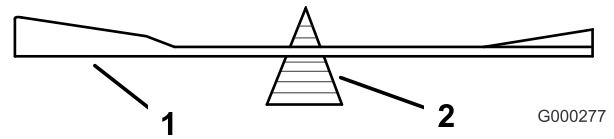
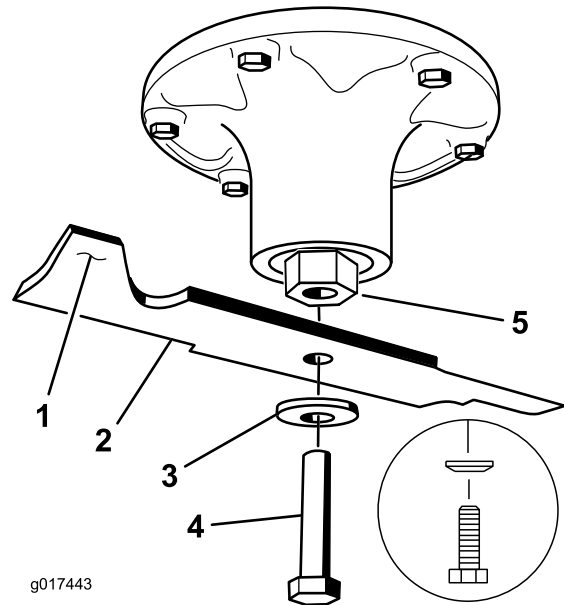

Figure 80
Figure 81
2. Check the balance of the blade by putting it on a blade balancer (Figure 80). If the blade stays in a horizontal position, the blade is balanced and can be used. If the blade is not balanced, file some metal off the end of the sail area only (Figure 81). Repeat this procedure until the blade is balanced.
2. Install the blade, spring disk and blade bolt. The spring disk cone must be installed toward the bolt head (Figure 81). Torque the blade bolt to 115-150 N-m (85-110 ft-lb).